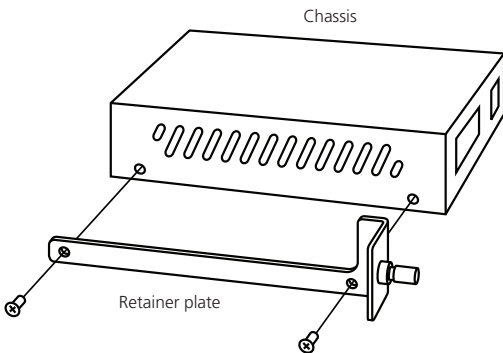

Figure 4-5. Install the retainer.
1. Take out the two screws located on the top of the chassis and use them to install the retainer as shown in Figure 4-5.